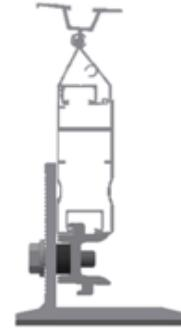

Fig 4.4.1: Optimiser Kit Installation
- I. Add Module Support Pro to either the top or bottom row of the PV array, as shown in [Fig 4.4.1].
- III. The microinverter/optimiser can be positioned by top entry or sliding in top of the rail [V-channel] using the hammerhead nuts on top of the Module Support Pro, as shown by the left image in [Fig 4.4.1].